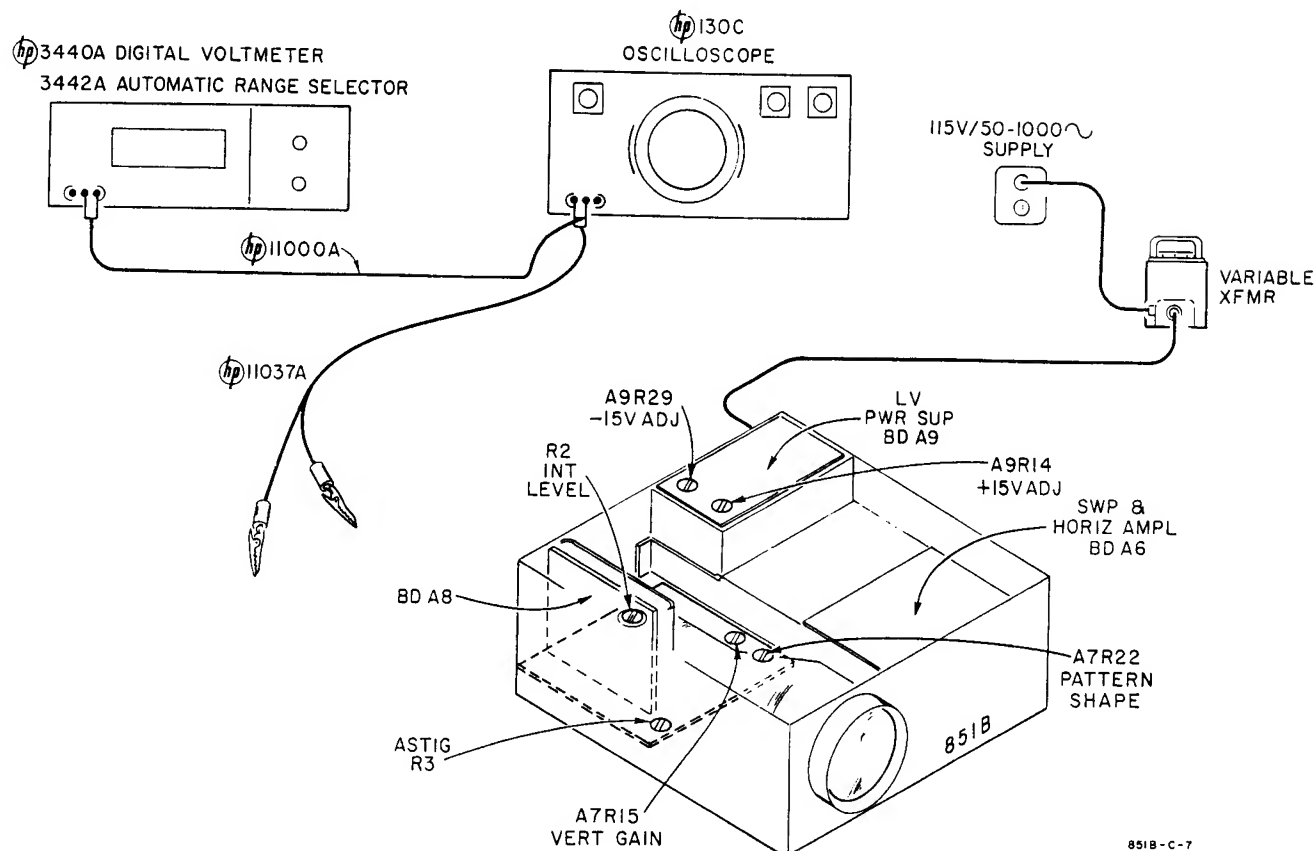

Figure 5-1. Measurement Setup, Check and Adjustment of LV Power Supply
e. Set Int Level R2 max cw. (R2 is located to right of cathode-ray tube toward rear of instrument; see Figure 5-1.)
b. Locate Low-Voltage Power Supply Board A9 (see Figure 5-1).
- (2) Turn INTENSITY max cw, and adjust Int Level R2 (to right of CRT, see Figure 5-1) for 0.5 ma.
- (3) Turn INTENSITY fully ccw, and check that beam is extinguished (no cathode current).
c. Cathode and Post-Accelerator Voltages. Using a dc Voltmeter and Voltage-divider Probe, check as shown in Table 5-16. Location of A8 board is shown in Figure 5-1.
through its range. See Figure 5-1 for location of Astig adjust R3 and Pattern Shape adjust A7R22.